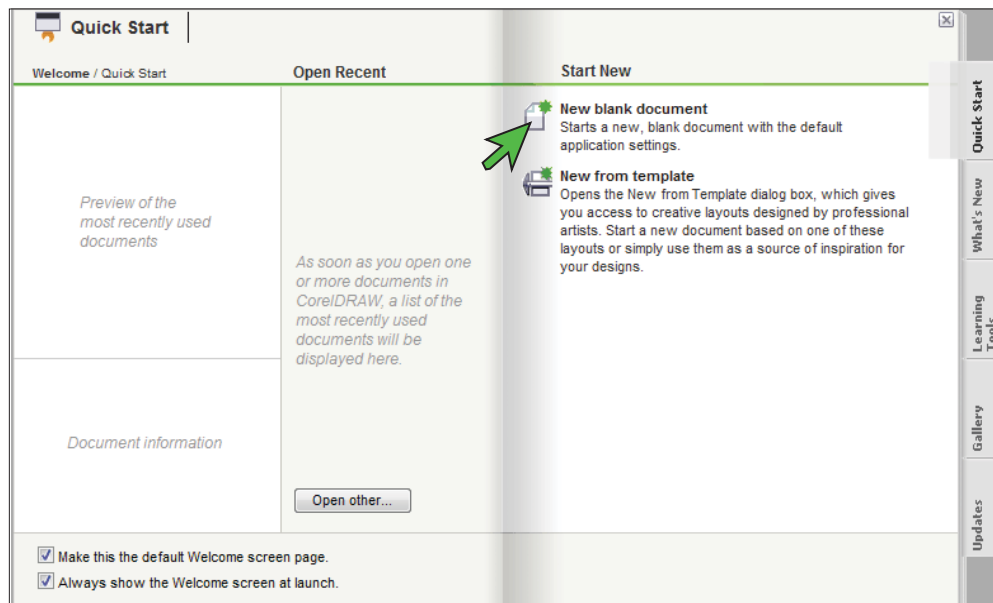

FIGURE 1
- 1.) Open a New Page in CoreIDRAW (see *FIGURE 1*).